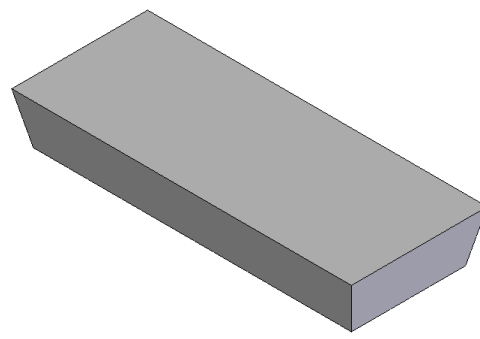

Figure 8-66 Model after adding the draft
- Add a draft to the base feature, refer to Figure 8-66.
5. Choose the **Finish** button to create the draft and then choose **Cancel** to exit this tool. The model, after adding the draft, is shown in Figure 8-66.